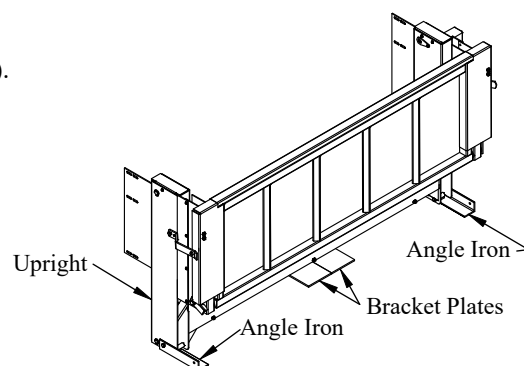

Figure 2: Complete liftgate (G2 shown).
4. Unbolt and Save the two (2) angle irons attached to the liftgate uprights (Figure 2).
5. Remove and Save the two (2) bracket plates attached to the liftgate (Figure 2).